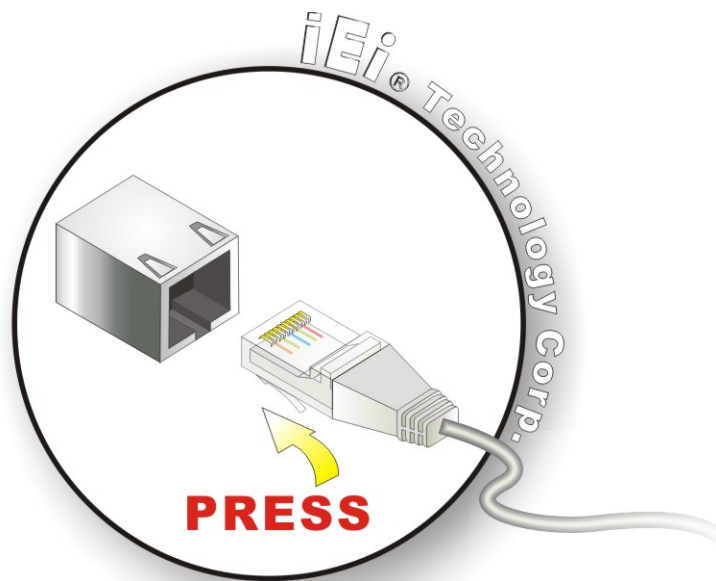

Figure 4-19: LAN Connection
Step 2: Align the connectors. Align the RJ-45 connector on the LAN cable with one of the RJ-45 connectors on the bottom panel of the AFOLUX AFL-15A-N270 Series. See **Figure 4-19**.